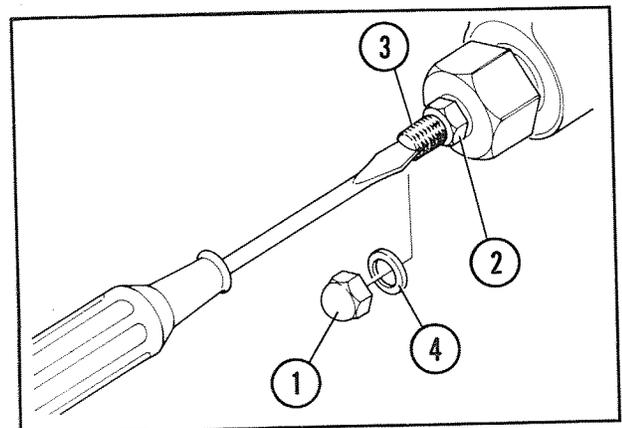

Figure 24
4. To adjust the relief valve pressure, remove the cap nut, loosen the lock nut and turn the adjuster, Figure 24. (Turning the adjuster clockwise will raise the pressure.) One turn of the adjuster will raise the pressure by about 350 PSI (25 kg/cm²).